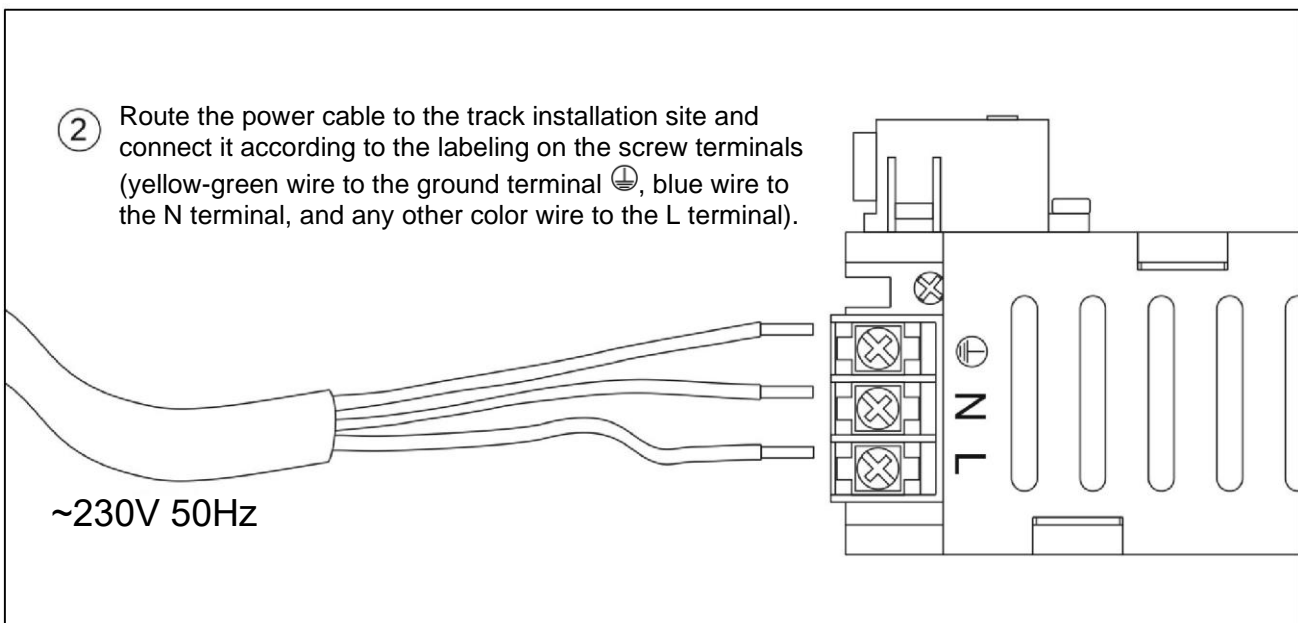

Figure 2: Connecting Network Cable
- Route the power cable to the track installation site, connecting it to the appropriate screw terminals on the power supply (yellow-green wire to the ground terminal \oplus , blue to N terminal, any other color to L terminal). Refer to Fig. 2.